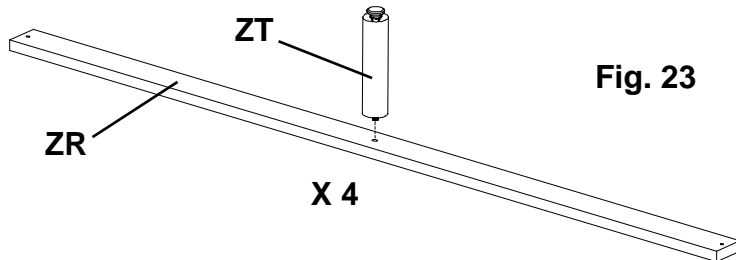

Fig. 23
23. Attach an Assembled Foot (ZT) to four of the five Slats (ZR) as shown in Figure 23.